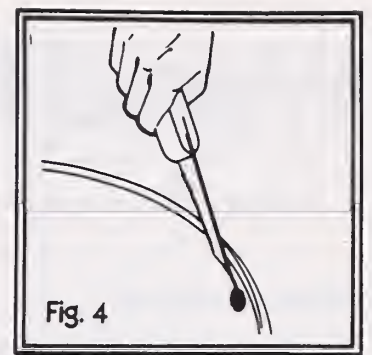

Fig. 4
keyhole saw in the hole and cut out and remove the end. Save this end piece (fig. 4). Remove the other end of the drum the same way.
4. Make the side cuts of the marked area in a similar manner. To assist in guiding the saw, nail a strip of wood next to the pencil mark. You may now slide the saw along the edge of the strip as you make the cut (fig. 4).